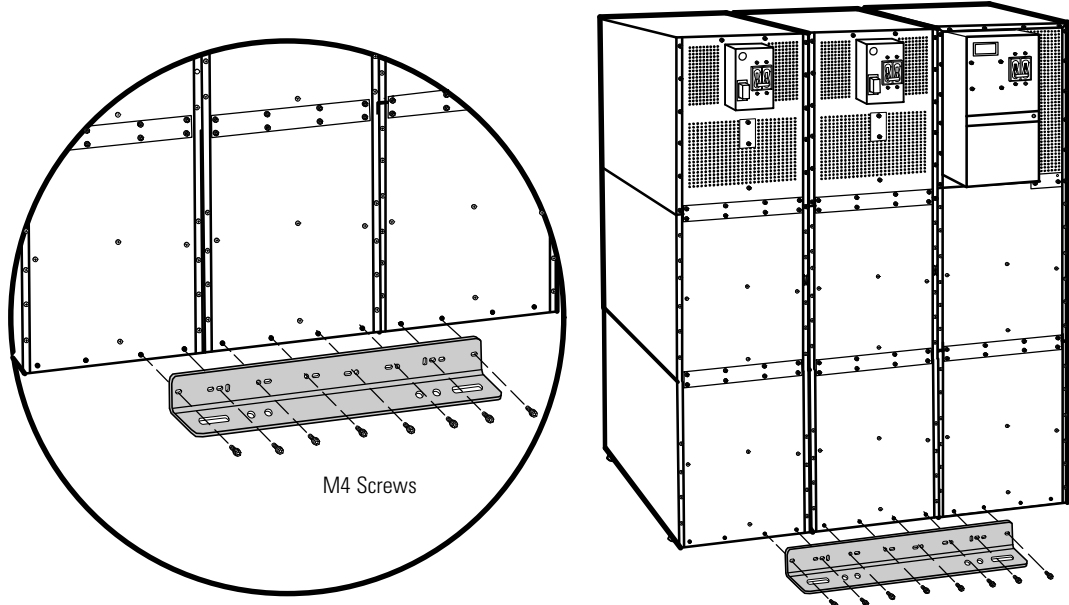

Figure 25. Stabilizing Bracket with Three Cabinets
- For three cabinets, see Figure 25.